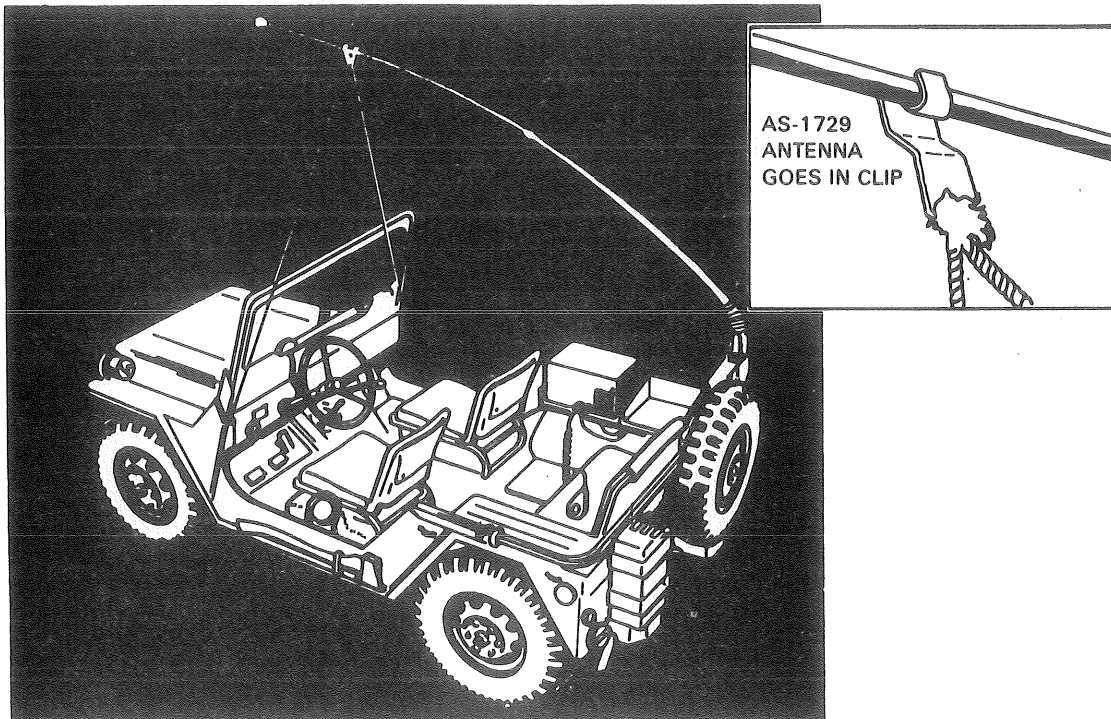

Figure 2. Antenna tie-down
- d. Connect the antenna (RF) cable CG-1773A/U between the ANT connector of the receiver-transmitter and the small (BNC) connector of the matching unit.
3. Tie down the antenna. (Refer to fig 2 and TM 11-5820-401-10-1, chap 2, sec III, step 5.)